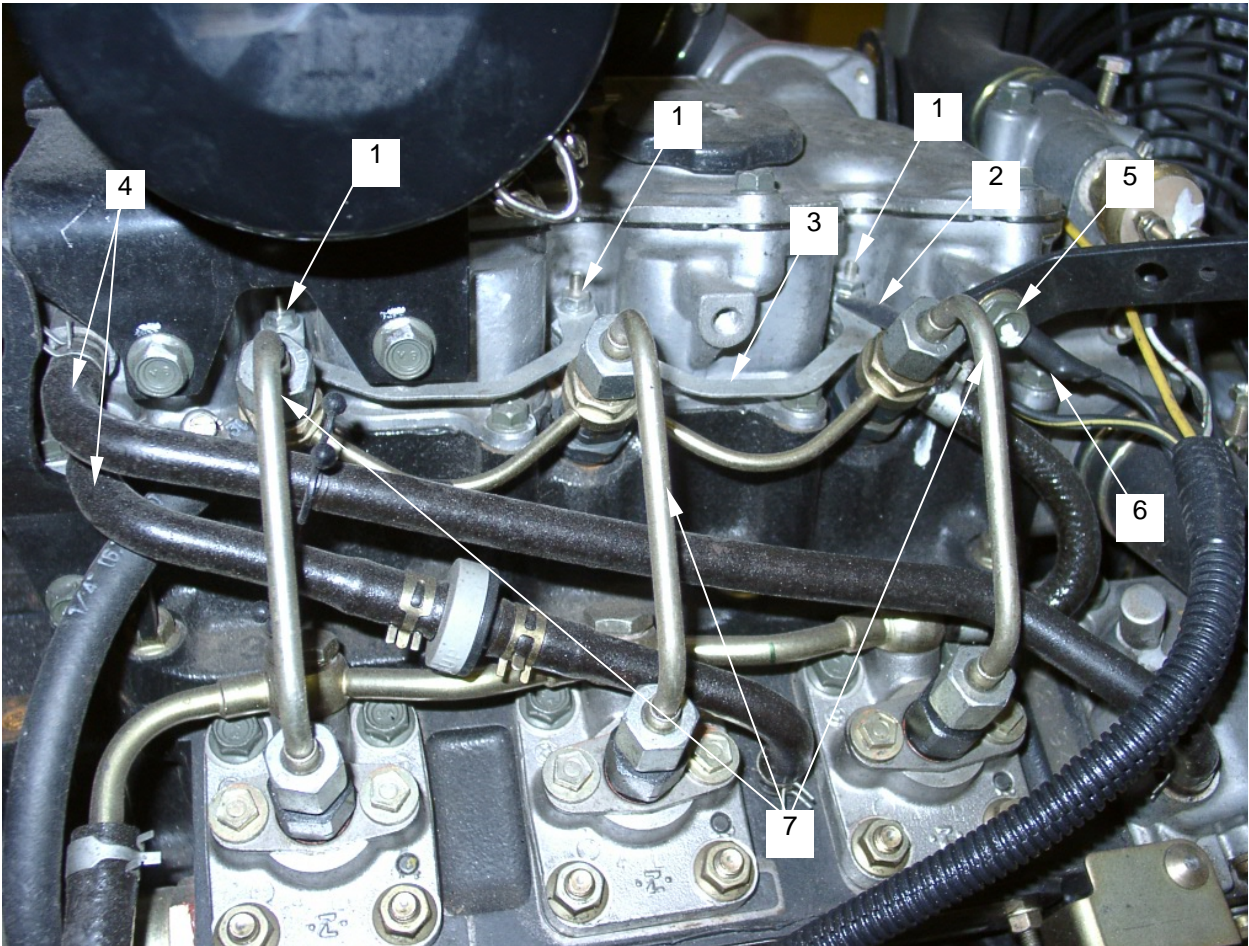

Figure 5. Rocker Head And Head Gasket Access
- a. Loosen and remove glow plug connector nuts (**figure 5, item 1**).
- b. Tag and remove wires (**figure 5, item 2**).
- c. Remove glow plug connector (**figure 5, item 3**).
- d. After placing a rag under the fittings, loosen and remove fuel lines (**figure 5, item 4**).
- e. Loosen and remove radiator bracket mounting bolt (**figure 5, item 5**).
- f. Tag and remove wires (**figure 5, item 6**).
- g. Loosen and remove fuel lines (**Figure 5, item 7**).